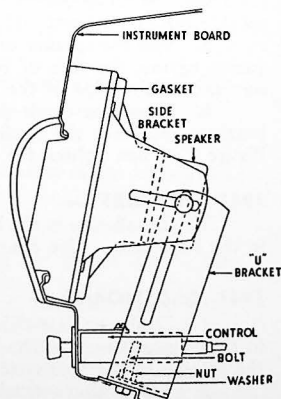

Figure 11
3. Fasten the "U" bracket to the instrument board flange with the nuts, bolts and washers. Make sure that the long slots in the sides of the "U" bracket are toward the grille. (See figure 11).
5. Loosely assemble the side brackets on the speaker to the "U" bracket and force it forward and in position, as shown in Figure 11. Then tighten the nuts.